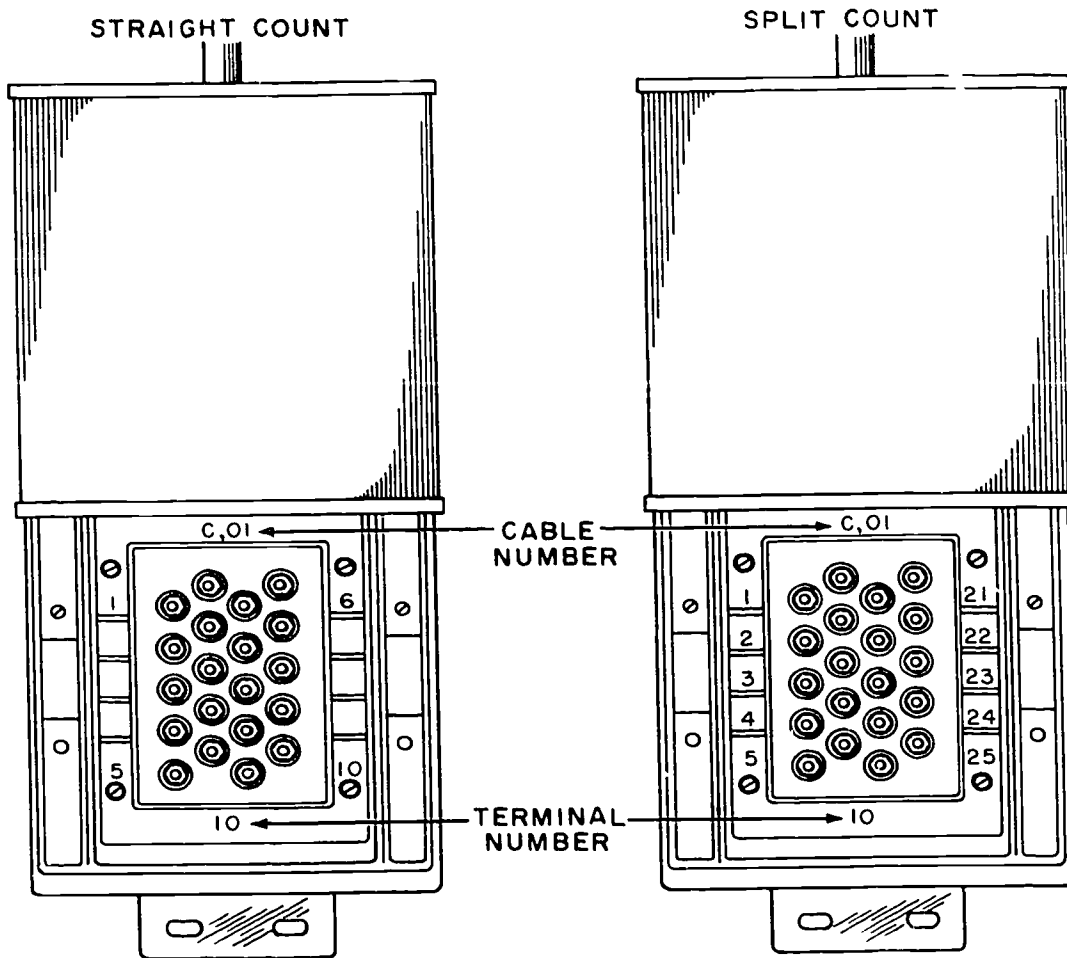

Figure 1-14. Typical pole mounted terminal.
a. Pole Mounted Terminal. The pole mounted terminal illustrated in figure 1-14 is a distribution type because it has only one grouping of terminals. A unit having two such groupings is named a cross-connect pole mounted terminal.